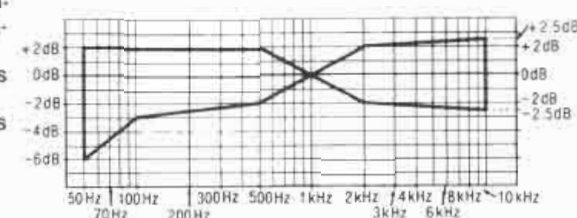
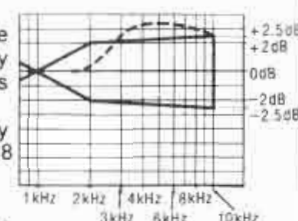
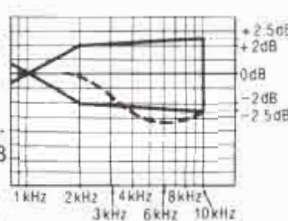

Fig. 12
Fig. 13
Fig. 14
- Playback the signals recorded in step 6, and check if the frequency response curve is within the limits shown in the overall frequency response chart for normal tapes (fig. 12). (If the curve is within the charted specifications, proceed to steps 7, 8 and 9.) If the curve is not within the charted specifications, adjust as follows:
When the curve exceeds the overall specified frequency response chart (fig. 12) as shown in fig. 13.
- Repeat steps 5 and 6 for confirmation (Proceed to steps 7, 8 and 9 if the curve is now within the charted specifications as shown fig. 12.)
- If the curve still exceeds the specifications (fig. 12), increase bias current further and repeat steps 5 and 6.
When the curve falls below the overall specified frequency response chart (fig. 12) as shown in fig. 14.
- If the curve still falls below the charted specifications (fig. 12), reduce bias current further and repeat steps 5 and 6.